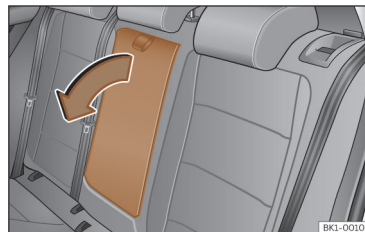

Fig. 106 Folding rear centre armrest (schematic view).
- To lower the armrest, pull the cord in the direction of the arrow >>> **Fig. 106**.